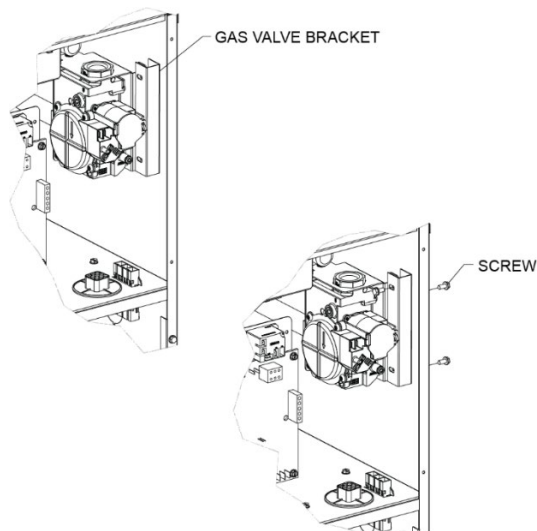

Figure 42 - Removal of Gas Valve Bracket
- 2) Remove outer and inner heating access panels and the control access panel **FIGURE 42 – Removal of Gas Valve Bracket**